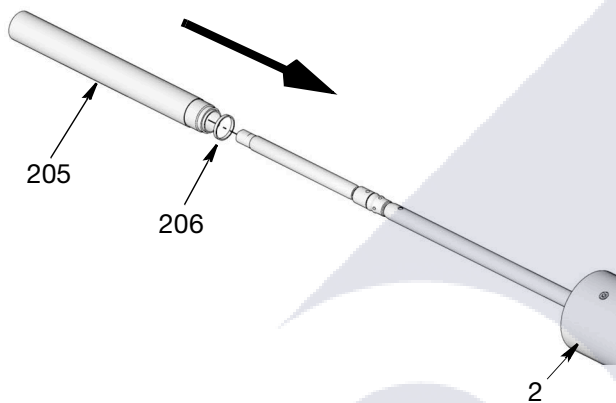

FIG. 41
Slide cylinder over rod assembly as shown in FIG. 41. Thread end of cylinder into bottom of pump adapter (2). Use a pipe wrench to turn cylinder until tightened securely. Torque to 45 - 55 ft lbs (61-74 N.m).